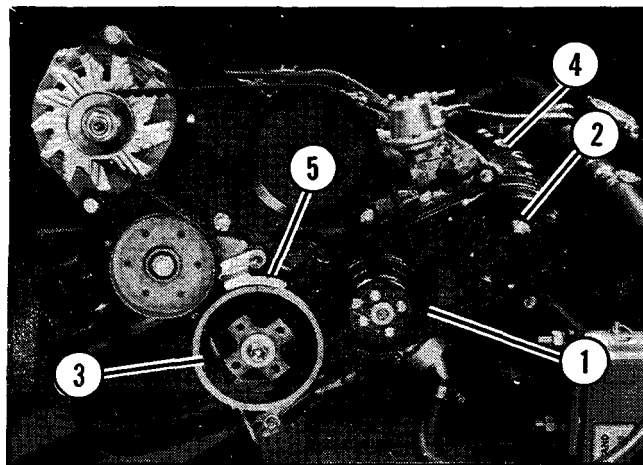

Figure 2.
1. Remove the water pump pulley, crankshaft pulley, timing belt cover, valve cover, and timing pointer and spacers. See Figure 2.